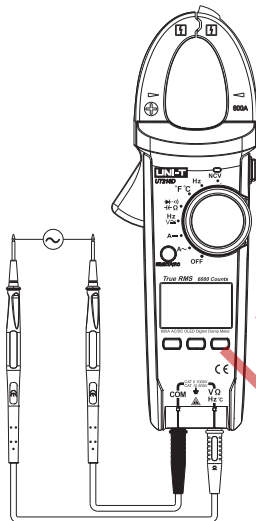

Fig. 11
10.Measurement of frequency (shown as Fig. 11)**(1) Insert pens**